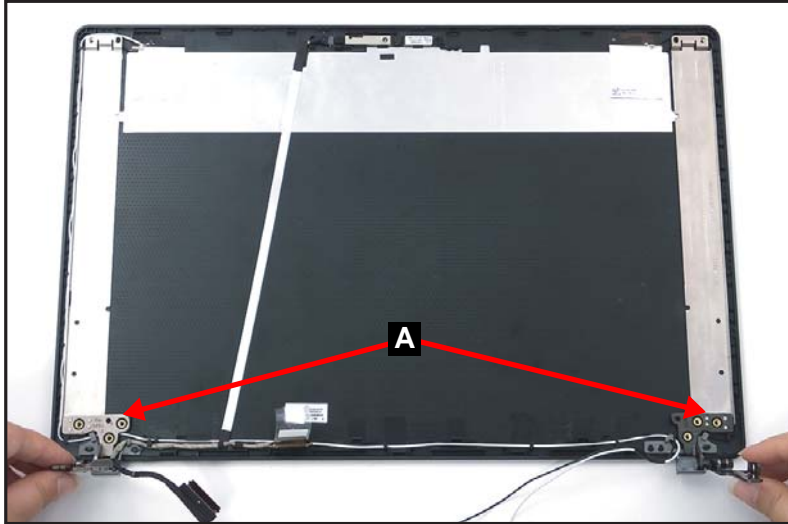

Figure 1-70. Replacing the LCD Hinges
1. Place the left and right LCD hinges (A) on the LCD cover (Figure 1-70).